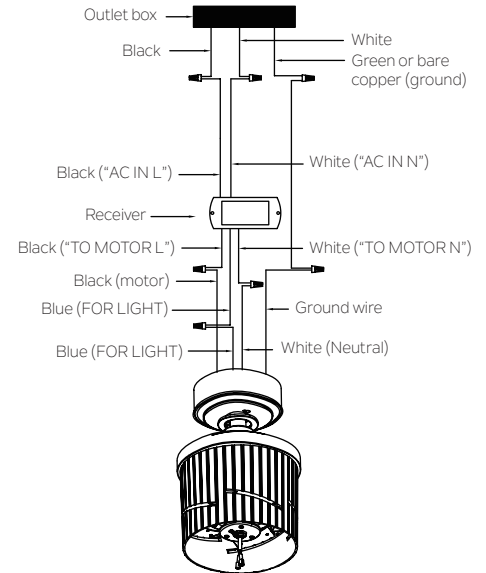

Fig. 14
Step 2. Motor to Receiver Electrical Connections: Connect the BLACK wire from the fan to BLACK wire marked "TO MOTOR L" from the receiver. Connect the WHITE wire from the fan to the WHITE wire marked "TO MOTOR N" from the receiver. Connect the BLUE wire from the fan to the BLUE wire marked "FOR LIGHT" from the receiver. Secure all the wire connections with the plastic wire connectors provided. (Fig. 14)
Step 3. Remote Receiver to Outlet Box Electrical Connections: Connect the BLACK (hot) wire from the ceiling to the BLACK wire marked "AC IN L" from the receiver. Connect the WHITE (Neutral) wire from the ceiling to the WHITE wire marked "AC IN N" from the receiver. Secure all the wire connections with the plastic wire connectors provided. (Fig. 14)
Step 4. If your outlet box has a ground wire (green or bare copper) connect it to the fan ground wires: otherwise connect the fan ground wire to the mounting bracket. Secure the wire connection with a plastic nut provided. After connecting the wires, spread them apart so that the green and white wires are on one side of the outlet box and black and blue wires are on the other side. (Fig. 14)